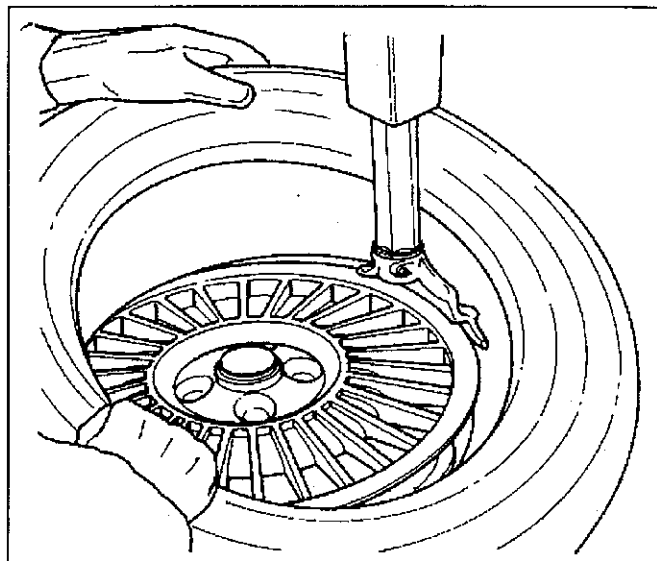

Fig.23
B. Lock the rim on the chuck and rotate it to have the valve at the 2 o'clock position. Place the tire to be mounted on the rim. Swing the mounting arm forward so that the mount/demount tool is in the working position. Engage the lower bead OVER the mounting wing and UNDER the mounting finger of the mounting tool. Turn the wheel clockwise and push the tire down into the drop center, opposite to the mount/demount head (Fig.23).